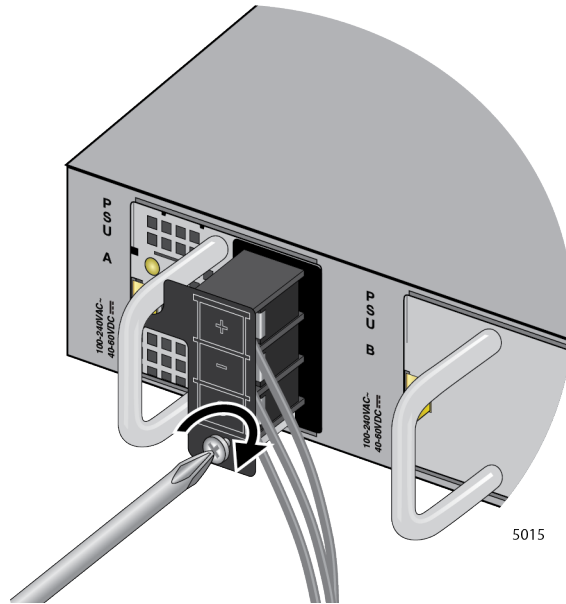

Figure 72. Tightening the Screw for the Cover Panel
9. Tighten the screw for the cover panel. Refer to Figure 72.